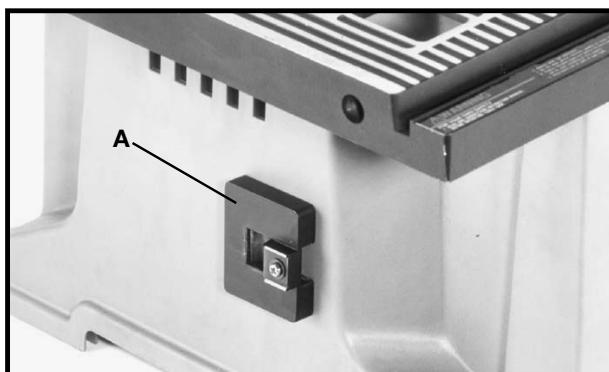
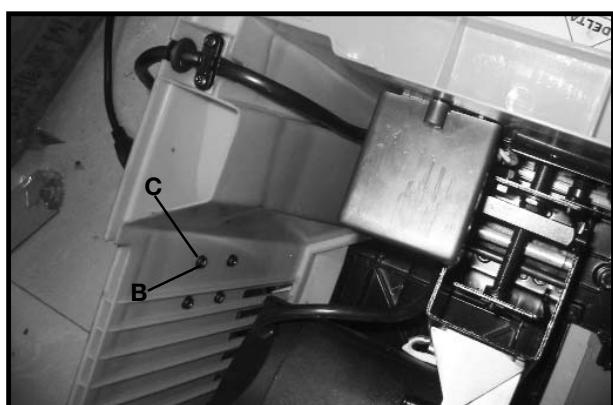

Fig. 6
Fig. 7
2. Assemble the miter gage holder (A) Fig. 6, to the left side of the saw cabinet using the four M4.2x10mm pan head screws (B) Fig. 7, and 3/16 in. washers (C) from inside saw cabinet.